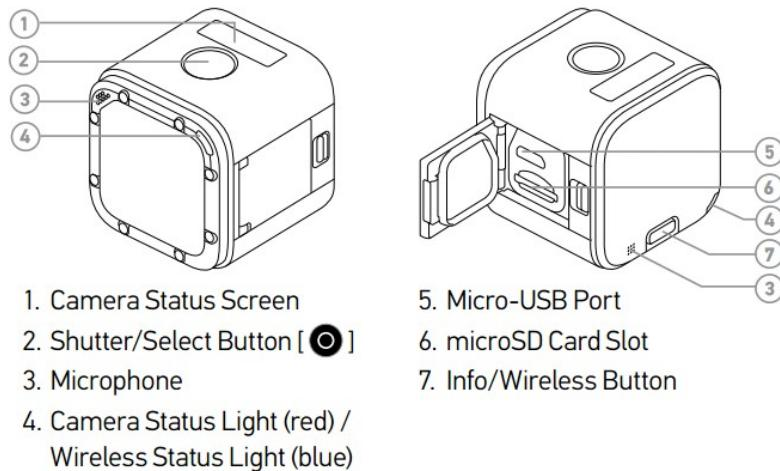

Figure 13: GoPro[©] HERO4 SessionTM Camera Parts
- Connect the camera to the computer via a micro USB cable (See Figure 13)
- Refer to Figures 13 and 14 for camera and tablet setup